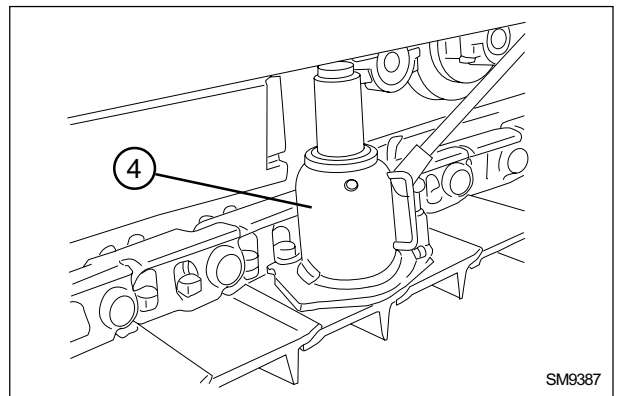
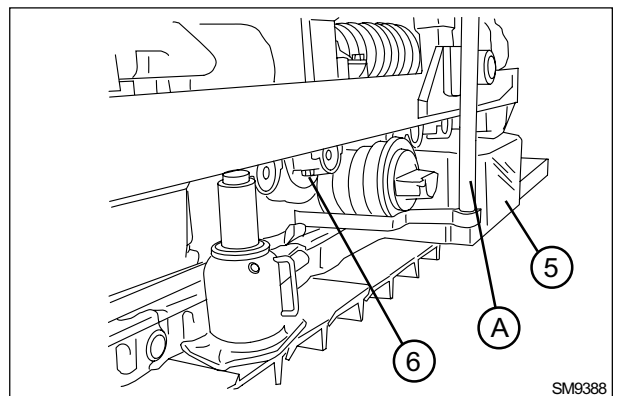

Fig. 34
Fig. 35
3. Lift the machine using a hydraulic jack (4 fig.34) of adequate capacity. Immediately support the machine using a strong wooden block (5) capable of supporting its weight (fig. 35).
4. Loosen screws (6) securing the rollers to the track frame.
5. Insert tool (A), remove the screws and remove the roller, as illustrated in fig. 35.
1. Place the roller on tool (A fig. 35) and arrange it on the track frame. Install screws (5) and tighten to the prescribed torque (see 5.5.4 SPECIFICATIONS AND DATA - bottom rollers).